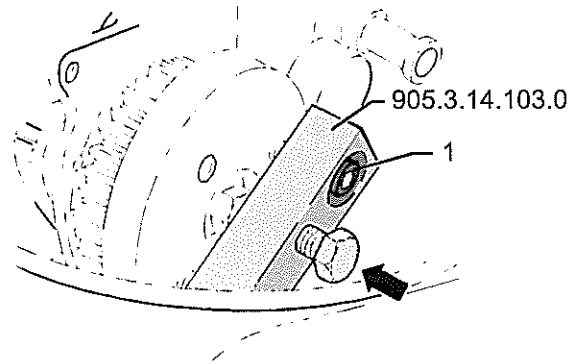

Fig 21 Pre-tension injection pump sprocket
In place of the extractor, screw two cylinder screws (provided with Table 1, Item 1) (See Fig 21 (1)) into the tapped hole of the injection pump sprocket.
- 30 Separate the injection pump sprocket from the taper of the injection pump by lightly tapping the spindle of the extractor (see Fig 21 arrow).